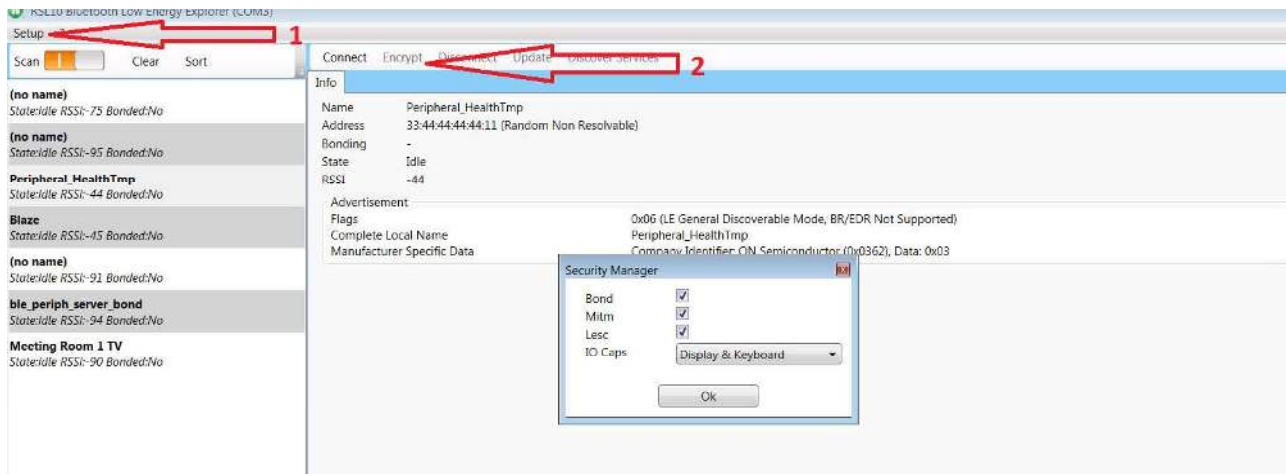

Figure 6. Setting the Security Options
1. The supported encryption settings can be selected in **Setup Menu > Security**, as shown in Figure 6. The Security Manager abbreviations are defined in Table 3 on page 8.